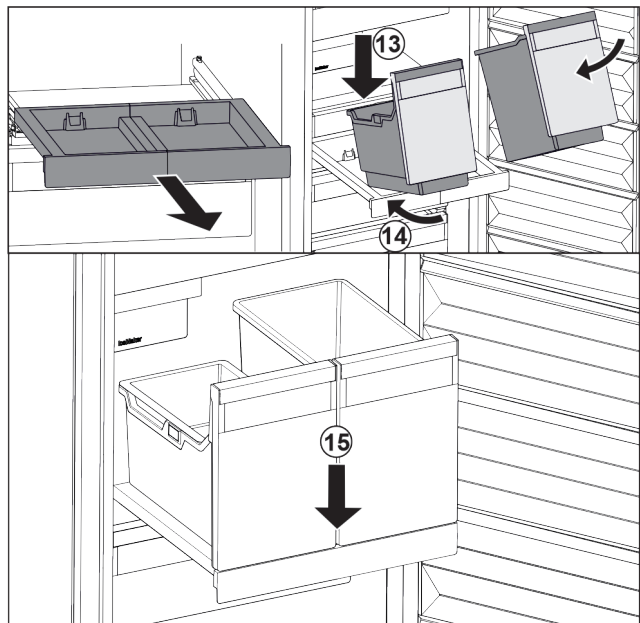

Fig. 110
- ▶ Place the container at an angle on the pull-out board. Fig. 110 (13)
- ▶ Slide the container to the back at an angle. Fig. 110 (14)
- ▶ Place container in the front. Fig. 110 (15)